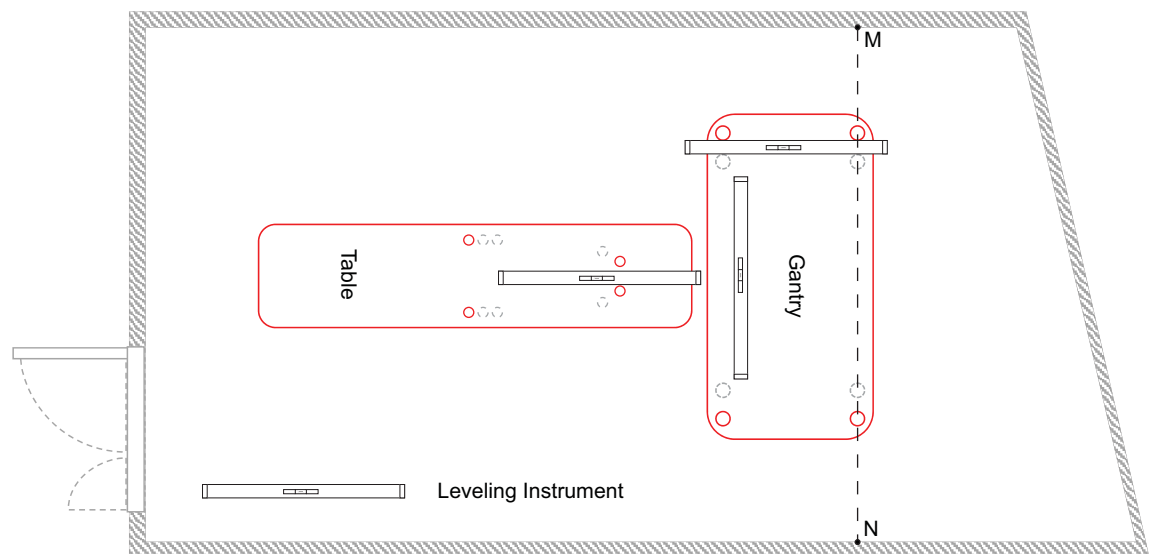

Figure 8-6 Check Floor Levelness
- Refer to the steps listed in Section 3.1.3 and to Figure 8-6 to check whether the floor of the scan suite meets the floor levelness specifications for the system.